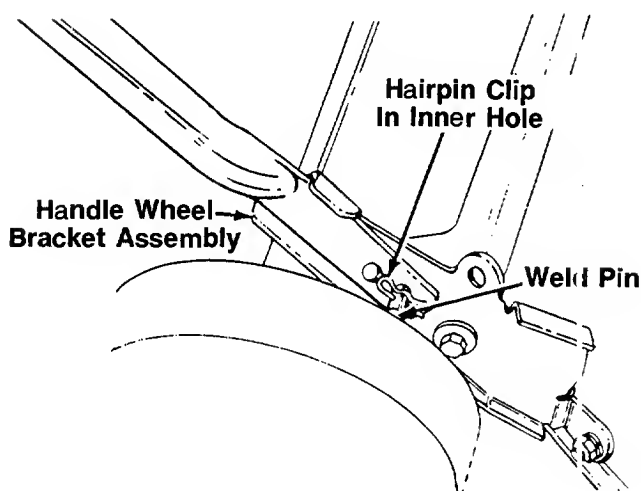

FIGURE 1.
3. Using a pair of pliers, squeeze on leg of the lower handle against the handle wheel bracket assembly. Insert the hairpin clip into the inner hole on the weld pin. See figure 1. Repeat on other side.